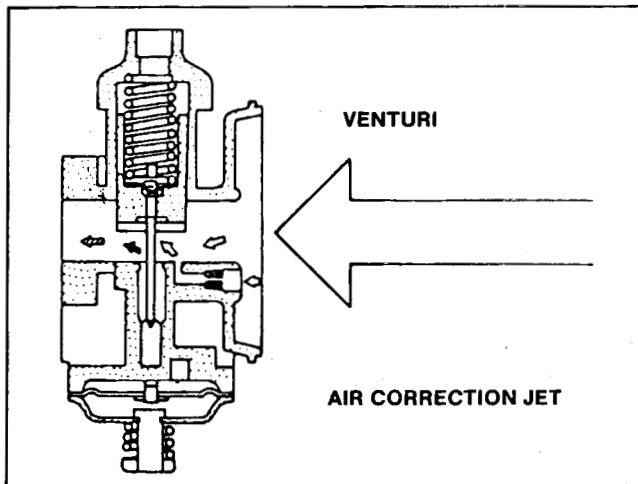

Figure 14
6. To better atomize the fuel, an air correction jet was added. The air correction jet allows filtered air to enter the carburetor throat perpendicular to the normal air flow. This action creates turbulence in the venturi area and helps mix the fuel with air as it enters the carburetor throat. See Fig. 14